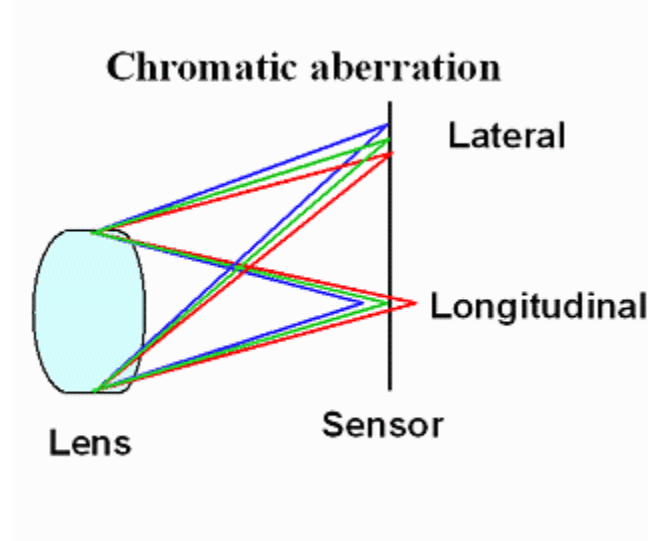

Figure 1. Chromatic aberration in lenses
Chromatic aberration (CA) is one of several aberrations that degrade lens performance. Other common aberrations include coma, astigmatism, and curvature of field. Chromatic aberration occurs because the index of refraction of the lens material varies with the wavelength of light, i.e. it bends different colors by different amounts as shown in Figure 1. This phenomenon is called *dispersion*. Minimizing chromatic aberration is one of the goals of lens design and it is accomplished by combining glass elements with different dispersion properties. Three element lenses (3P or 1G2P) are popular for mobile imaging applications. However, the optical performance of all 3-element lenses is limited by lateral chromatic aberration, also known as lateral color. This aberration can only be eliminated using a 4-element design with a 2P2G configuration. This paper compares the lateral color of a 1G2P lens with a 2G2P lens.
The two types of chromatic aberration are illustrated in Figure 1.